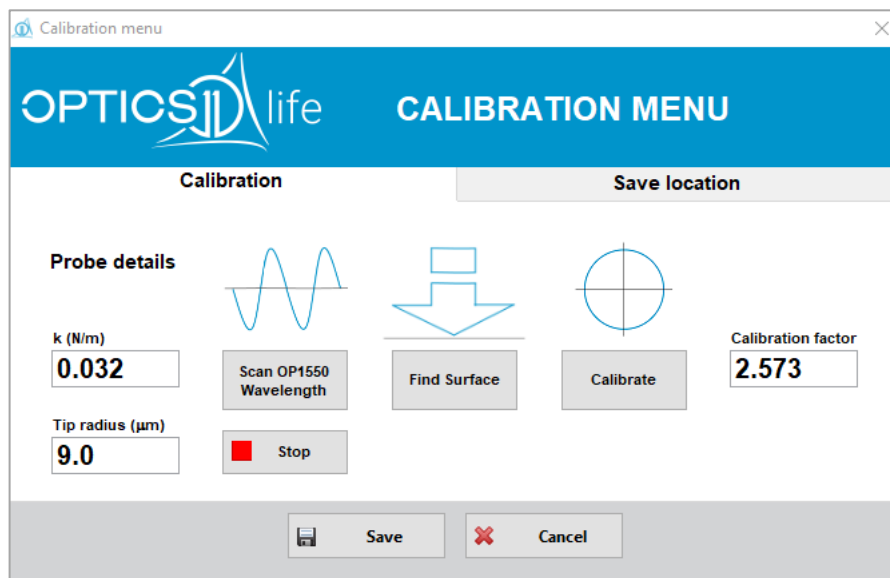

Figure 1: Probe calibration menu.
1. Input the probe parameters in the software suite to obtain meaningful measurement results. Probe parameters that need to be set in the program are the cantilever spring constant k (N/m) and probe tip radius R (μm). These parameters can be entered in the 'Initialize' (calibration menu), see Figure 1. The numbers can be found on the side of the probe packaging box and are unique for each probe. They are calibrated in the air by indenting on a scale. If you accidentally forget to update the probe details after changing the probe, you can still change those in the DataViewer software while analyzing the obtained data.¹